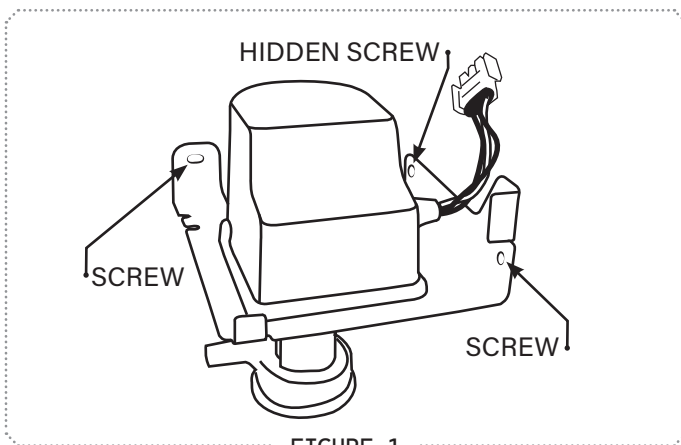

FIGURE 1
7. Remove three cap screws holding pump. Two are visible, the third one is behind the pump and requires an 8" extension on the socket. *See Figure 1*